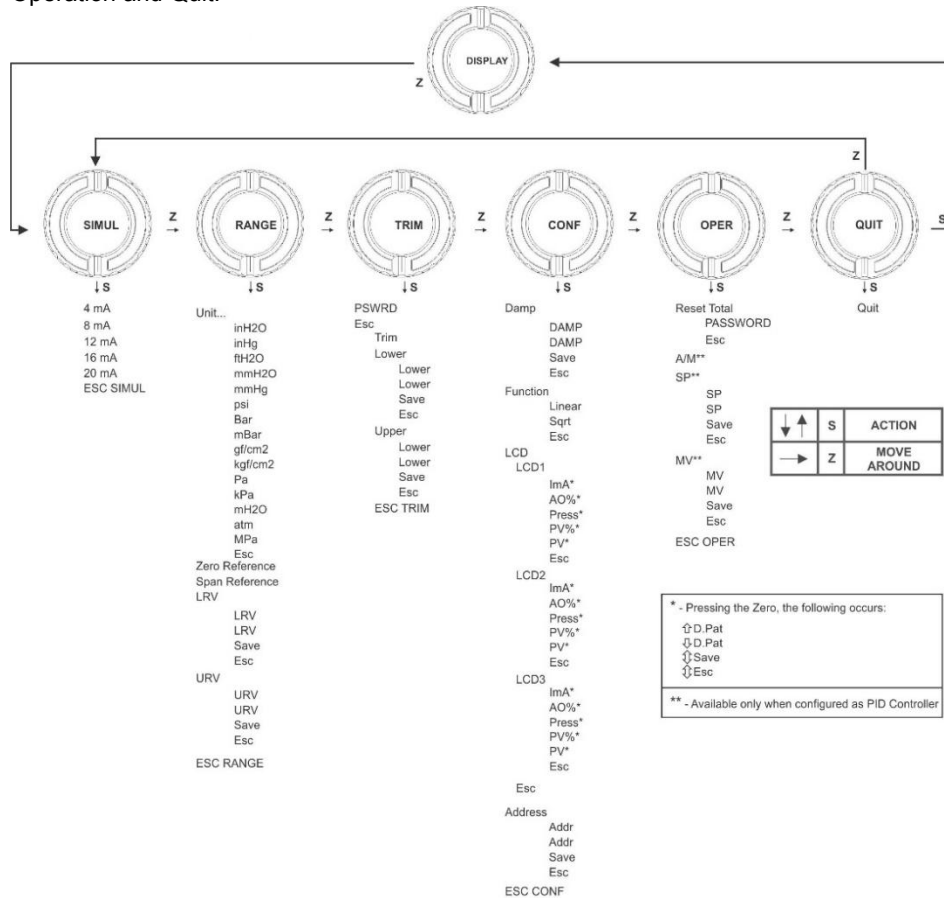

Figure 5.3 – Complete Local Adjustment Programming Tree – Main Menu
- ✓ In order to reach the desired option, browse the options, wait until they are displayed and move the magnetic tool from **(Z)** to **(S)**. Refer to Figure 5.3 – Local Adjustment Programming Tree, in order to know the position of the desired option. By placing the magnetic tool once again in **(Z)**, it is possible to browse other options within this new branch.